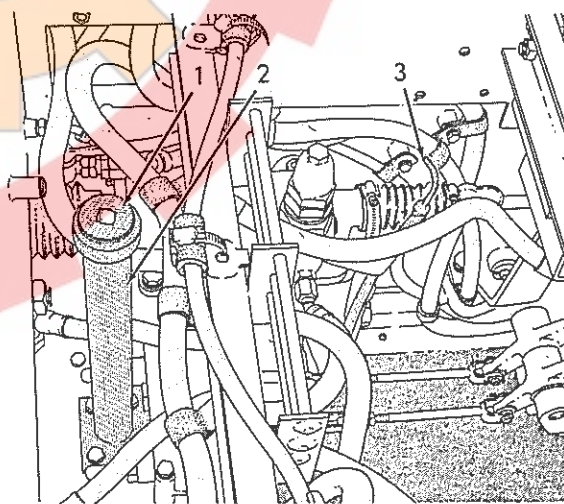

Fig. 4 Oil Filler Pipe and Oil Level Gauge Rod
- b. Pour specified lubricant through oil filler pipe Fig. 4. Before starting engine, check to make certain oil is noted on gauge rod; if no oil is noted on gauge rod, add only enough to bring oil level to lower end of "Operating Range".